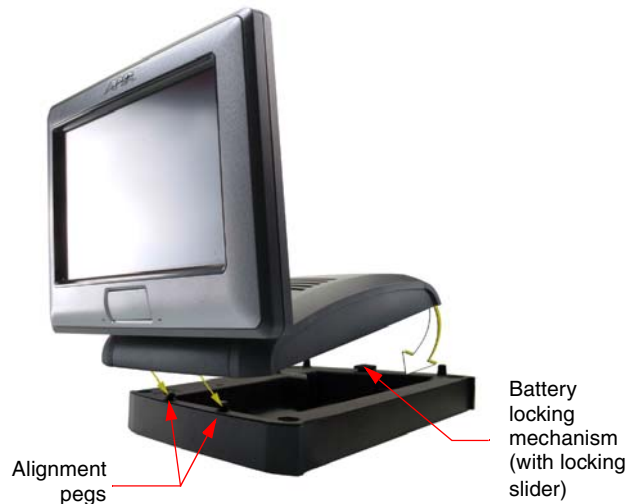

FIG. 29 NXA-BASE/1 shown aligning with NXT-CV7 panel
4. Carefully angle the NXT-CV7 panel over the front alignment pegs (FIG. 29). The pegs assist in both aligning and securing the panel to the base (the locking mechanism secures the base to panel when done).
6. Verify the alignment of the Panel Interface connectors between the panel (female connector) and base (male connector) (FIG. 29).